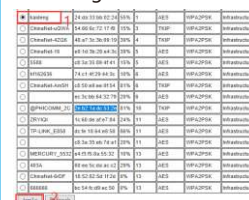

Figure12
3. Select your own network in the searched network list as shown in Figure 12: